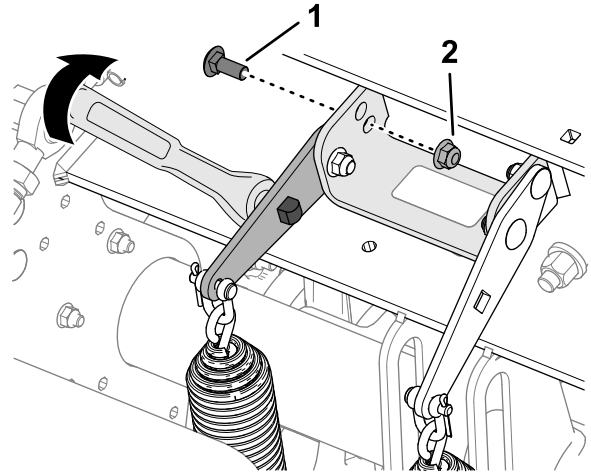

Figure 110
4. Insert a 1/2 inch-drive ratchet or breaker bar into the square hole in the spring-tension plate (Figure 110).